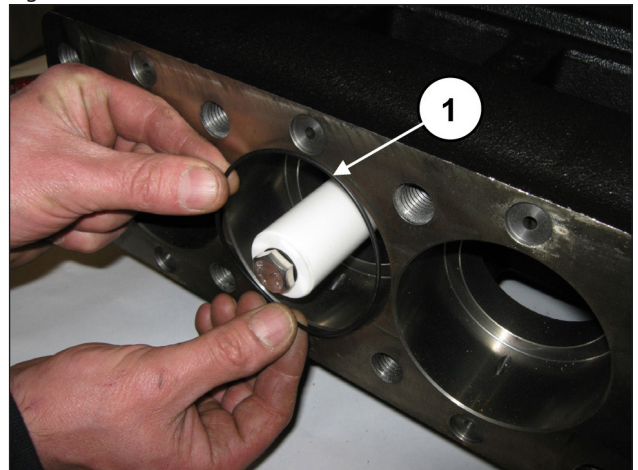
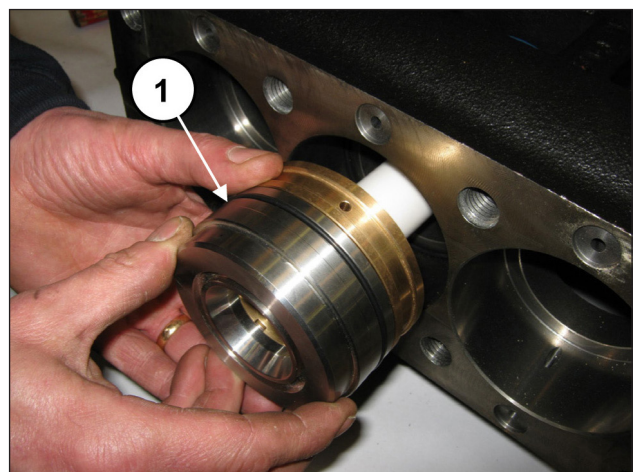

Fig. 190
Fig. 191
Insert the O-ring inside the pump casing (pos. ①, Fig. 190) and then the previously-assembled liner-seal support block (complete with the same O-ring) to end stroke (pos. ①, Fig. 191).